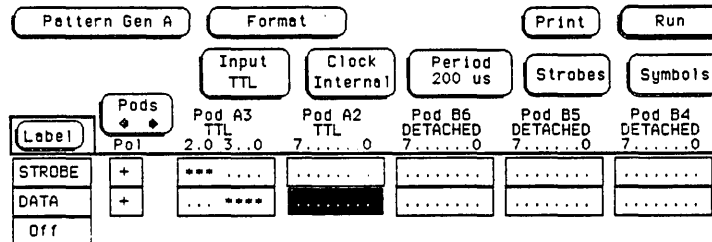

Figure 3-5. Channel Assignment Field
- f. Touch channel assignment field for the selected input cable. See figure 3-5.